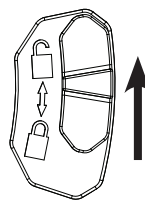

Figure 1
1. Move storage lock to the unlocked position as shown Figure 1.
1. Place front housing (*fig. 1, component 1*) facing down on a flat, stable surface.
2. Remove the 4 screws (*fig. 1, component 7*) and rear housing (*fig. 1, component 2*).
3. To prevent tape from unwinding, place tie or strap around the reel cartridge (and not housing) (*fig. 1, component 3*).